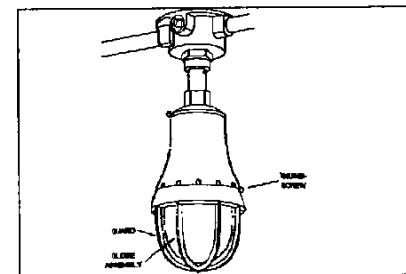

Figure 3.
5. Separate globe assembly from hood assembly by loosening thumbscrew on hood assembly and unscrewing globe assembly (Fig. 3).
The globe assembly should be backed off so thumbscrew enters closest notch in globe assembly to insure secure fastening (Fig. 3).